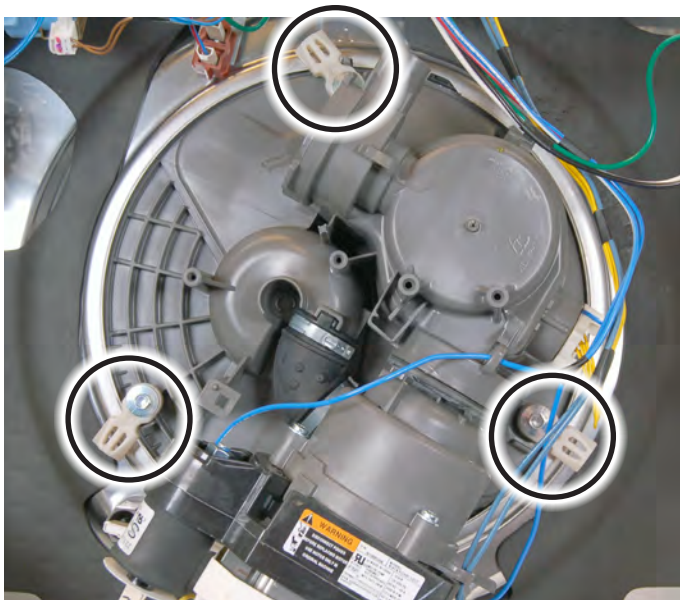

Figure 2 - Locked
4. Unlock the three tabs securing the motor and sump assembly to the tub, (see Figures 2 and 3).